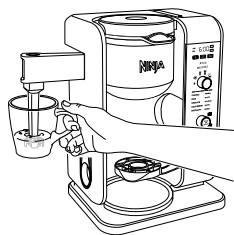

Fig. 20
- 3 Hold the cup under the frother and submerge the whisk just below the surface of the milk. This allows air to fold into the milk for the frothiest results (Fig. 20).